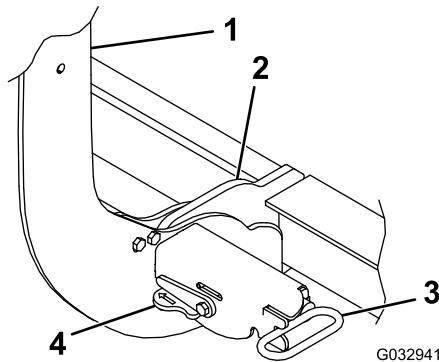

Figure 26
4. Turn the levers on the spring pins to the LOCK position (Figure 26).
7. Ensure that both spring pins have fully engaged the coupler (Figure 26).